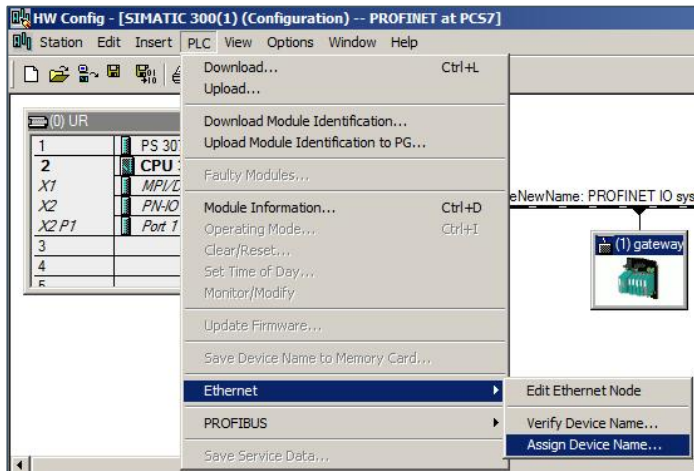

Figure 34: Search for window to assign device name
- 1) Click **PLC > Ethernet > Assign Device Name...** (see: Figure 34: Search for window to assign device name).